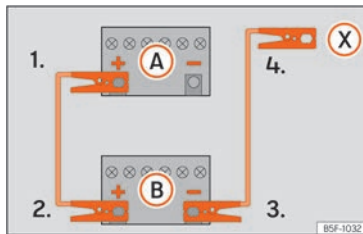

Fig. 154 Diagram of connections for vehicles without Start Stop system
- Vehicles without a Start-Stop system:* connect one end of the black jump lead to the negative terminal **-** of the vehicle providing the current **B** »» Fig. 154.